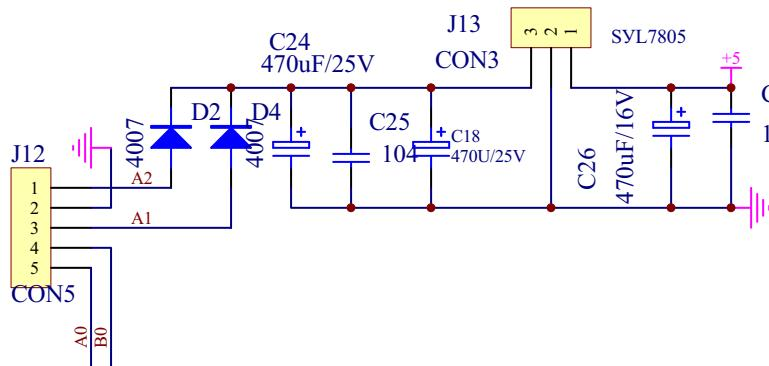

Fig.29A The Main Controlling Board Power Supply
#### (1) PRO85, PRO85U Circuit (Fig.29A)